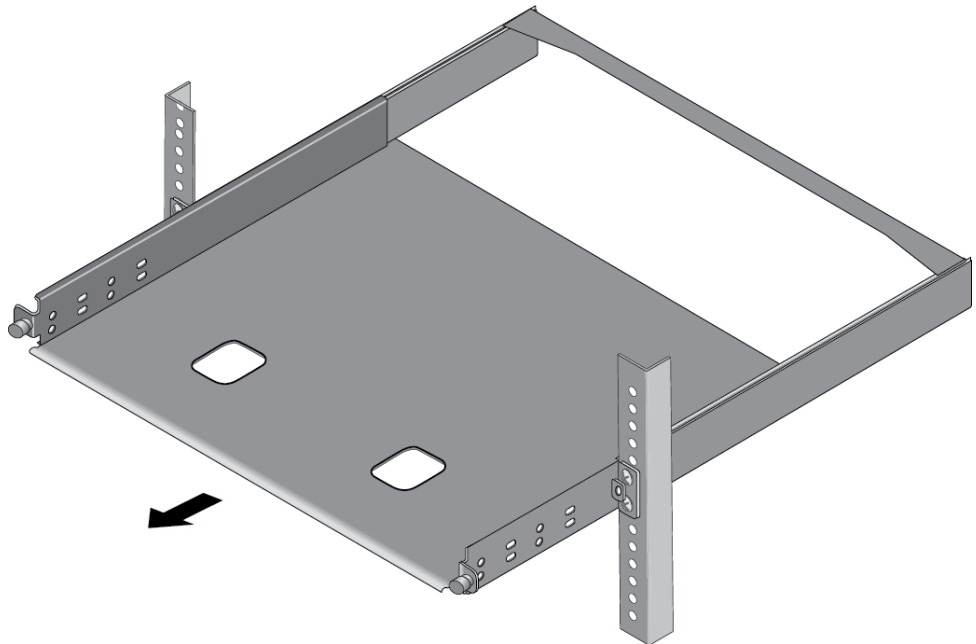

Figure 30. Sliding Out the Tray from the AT-RKMT-J15
3. Slide out the bracket tray. Refer to Figure 30.